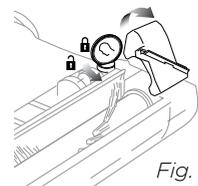

Fig. 9
- 3 To access brushroll for cleaning or replacement, unlock and remove the brushroll cover. Use the edge of a coin to turn the lock counterclockwise to open, then lift off the cover. **(Fig. 9)**